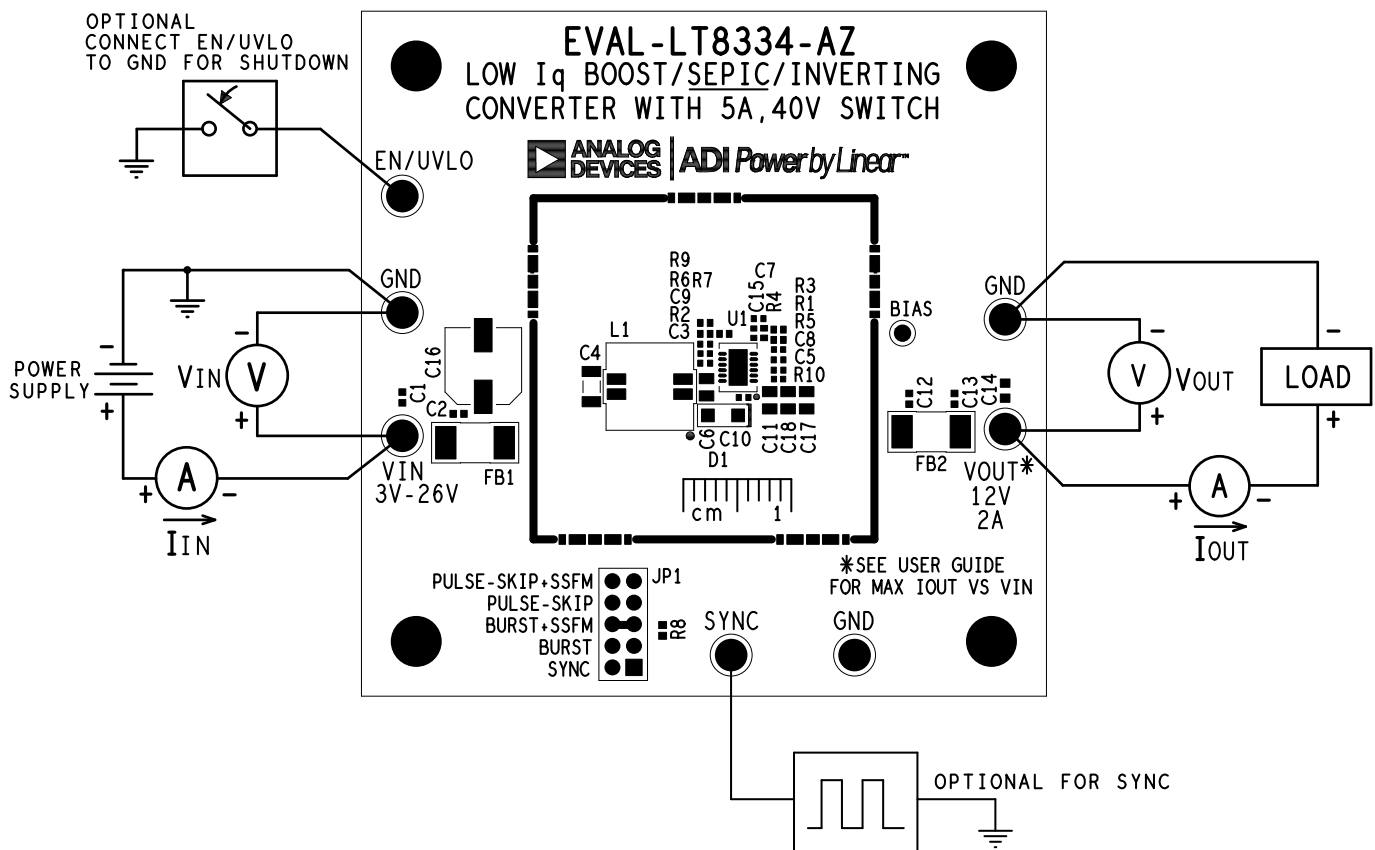

Figure 1. Proper Equipment Setup for EVAL-LT8334-AZ
Evaluation circuit EVAL-LT8334-AZ is easy to set up to evaluate the performance of the LT8334. Refer to Figure 1 for proper measurement equipment setup and follow the procedure below.
2. With power off, connect the input power supply to V_{IN} and GND terminals of the board. Include voltage and current meters as shown in Figure 1 if desired.